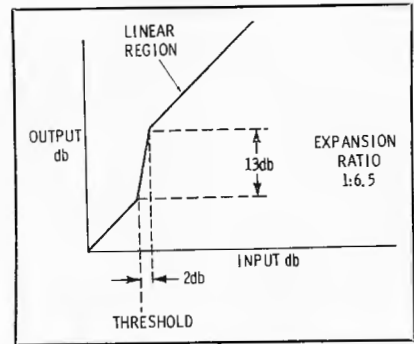

Fig. 4. "Gate Amplifier" transfer curve.
**Ron 40A Gate Amplifier**—The Ron 40A Gate Amplifier, as Fig. 4 indicates, is a signal expander and noise suppressor. (For a complete description, see Michels: "Program Gated Noise Suppression Amplifier," BE, April, 1962.) When the input signal is properly adjusted, program material is expanded while background noise remains below the threshold. Hence the signal-to-noise ratio is improved. The circuit is a conventional expander with a neon lamp acting as an expansion clamp; beyond the clamped point the amplifier is linear. It has been designed to work following a pre-amplifier but probably could be